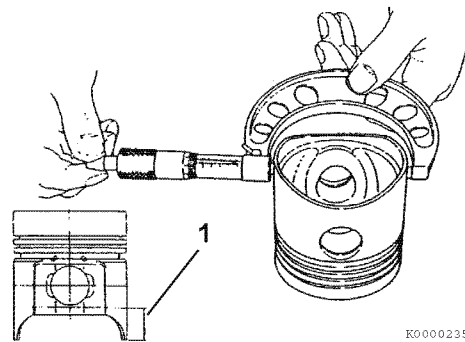

Figure 6-65
4. Measure the diameter of the piston skirt at 90° to the wrist pin bore as shown (**Figure 6-65**). Measurements must be taken at a specified distance (1, **Figure 6-65**) from the bottom of the piston, based on engine model. Record the measurements. See *Piston on page 6-7 for specifications*.